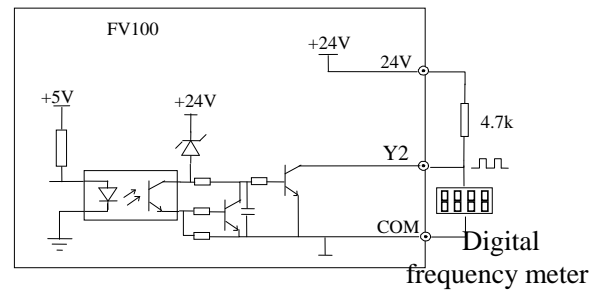

Fig 4-15 Wiring method 1 of output terminal Y2
3. Y2 can also be used as pulse frequency output, If Y2 uses the internal 24V power supply. The wiring is shown in Fig.4-15.